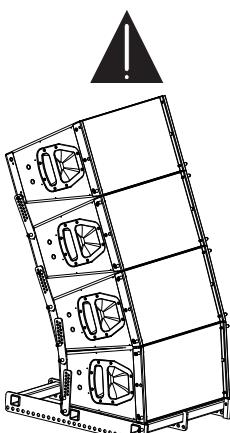

Fig. 21: Q1s in a ground stacked set up on Z5159 Q Flying frame
- Place the Q Flying frame up side down on the ground as shown in the illustration opposite (Fig. 21).